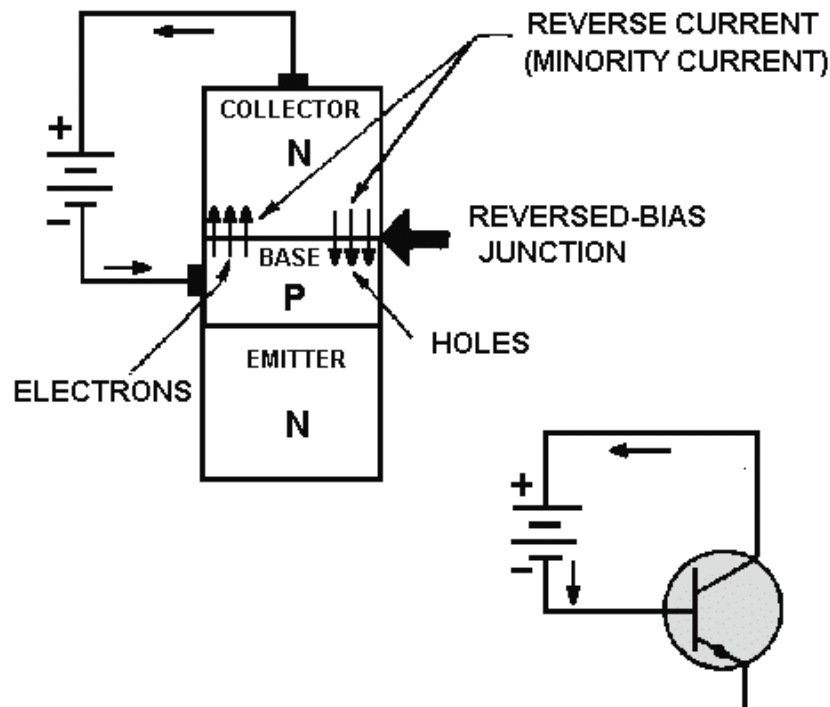

Figure 2-6.—The reverse-biased junction in an NPN transistor.
**NPN REVERSE-BIASED JUNCTION.**—The second PN junction (base-to-collector), or reverse-biased junction as it is called (fig. 2-6), blocks the majority current carriers from crossing the junction. However, there is a very small current, mentioned earlier, that does pass through this junction. This current is called minority current, or reverse current. As you recall, this current was produced by the electron-hole pairs. The minority carriers for the reverse-biased PN junction are the electrons in the P material and the holes in the N material. These minority carriers actually conduct the current for the reverse-biased junction when electrons from the P material enter the N material, and the holes from the N material enter the P material. However, the minority current electrons (as you will see later) play the most important part in the operation of the NPN transistor.